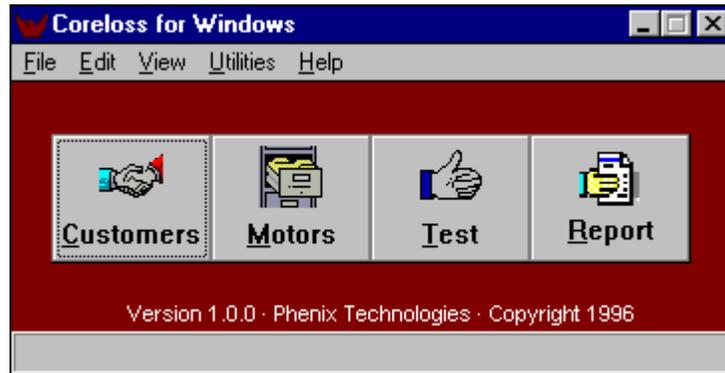

Figure 4-2. Core Loss for Windows, Main Screen
1. On the main screen of Core Loss for Windows, Figure 4-2, click on the *Test* button. The Test Setup screen will open.